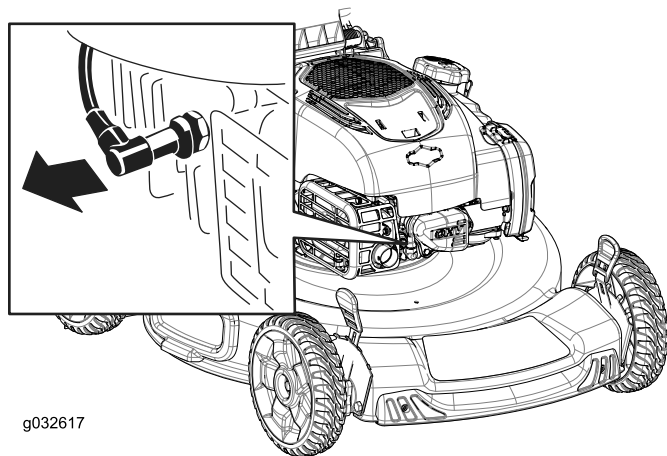

Figure 22
- Disconnect the spark-plug wire from the spark plug (Figure 22).